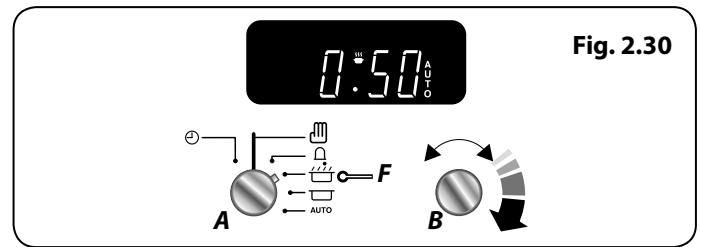

Fig. 2.30
1. Turn the **Timer (A)** knob to the **Cook Time (F)** setting. Turn the **Adjusting (B)** knob clockwise to set the length of the cooking time required e.g. 50 seconds (**Fig. 2.30**).